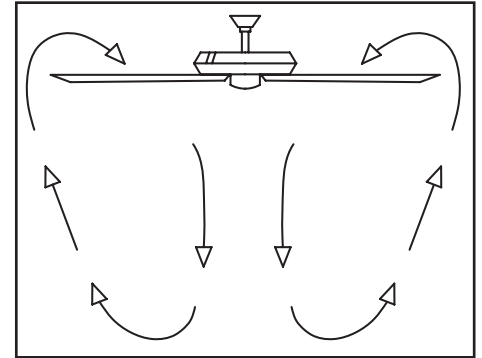

Figure 15
**Warm weather** - (Forward) A downward air flow creates a cooling effect as shown in Figure 15. This allows you to set your air conditioner on a higher setting without affecting your comfort.